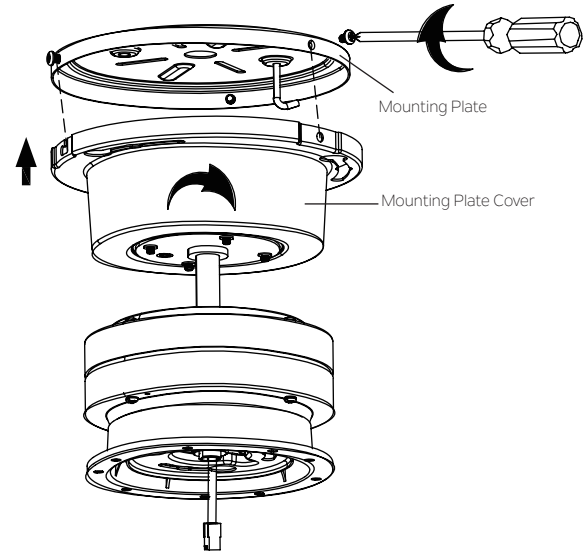

Fig. 11
**Step 2:** Release the motor assembly from the J hook, raise the motor assembly up to the mounting plate, align the slot holes on the mounting plate cover with two loosened screws on the mounting plate. Rotate the mounting plate cover until two loosened screws lock in place at the narrow end of key holes. Re-install the screw removed on step 1, tighten three screws securely. (Fig. 11)